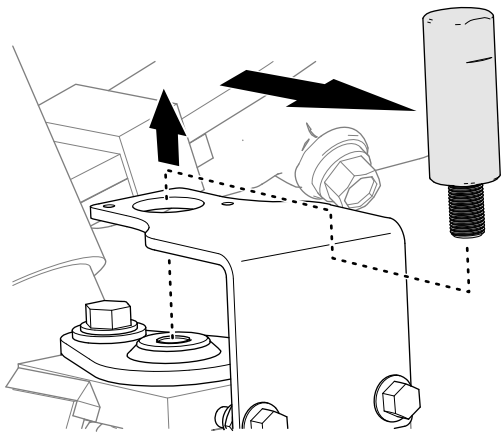

Figure 12
6. Remove the alignment tool (Figure 12).